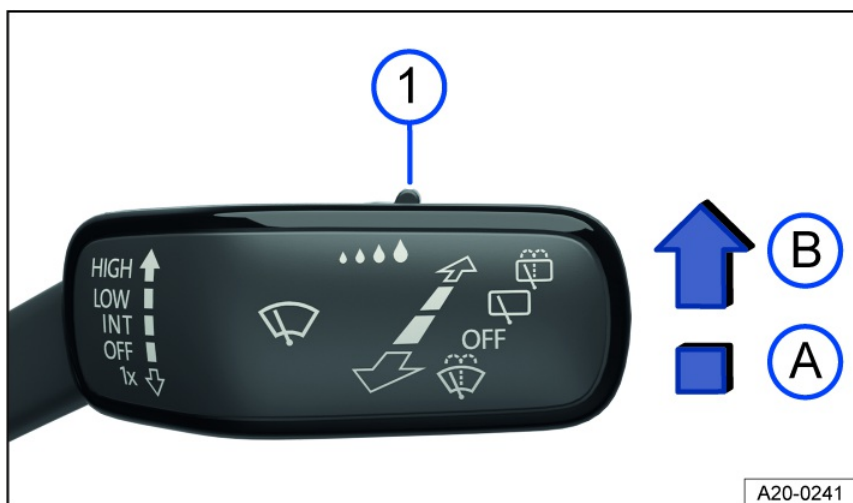

Fig. 98 On the right side of the steering column: windshield wiper lever.
1. Press the lever into the desired position fig. 98.
The sensitivity of the rain/light sensor can be manually adjusted with the switch in the windshield wiper lever fig. 98, → .